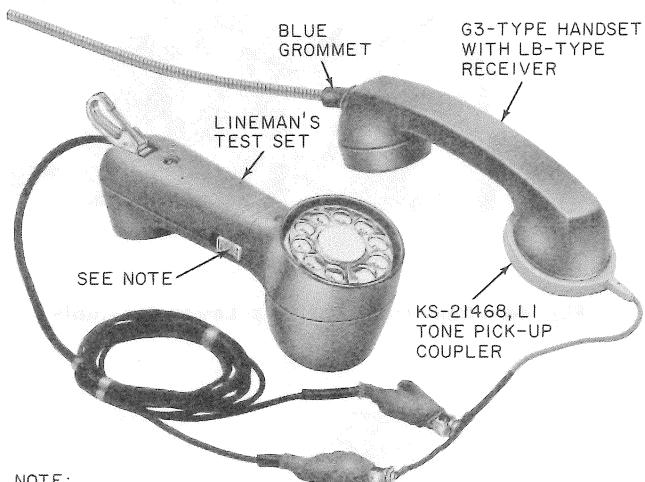

Fig. 54—KS-21468, List 1 Tone Pick-Up Coupler
- (1) Place a KS-21468, List 1 tone pick-up coupler (Fig. 54) around the receiver cap of handset.